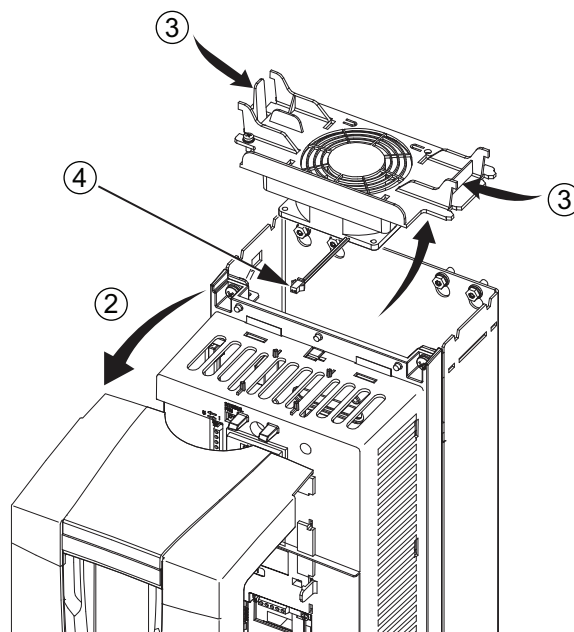

Fig. 48 — ACH550 Fan Replacement
3. Press the lever located on the left side of the man mount and rotate the fan up and out (see Fig. 48).
4. Disconnect the fan cable (see Fig. 48).